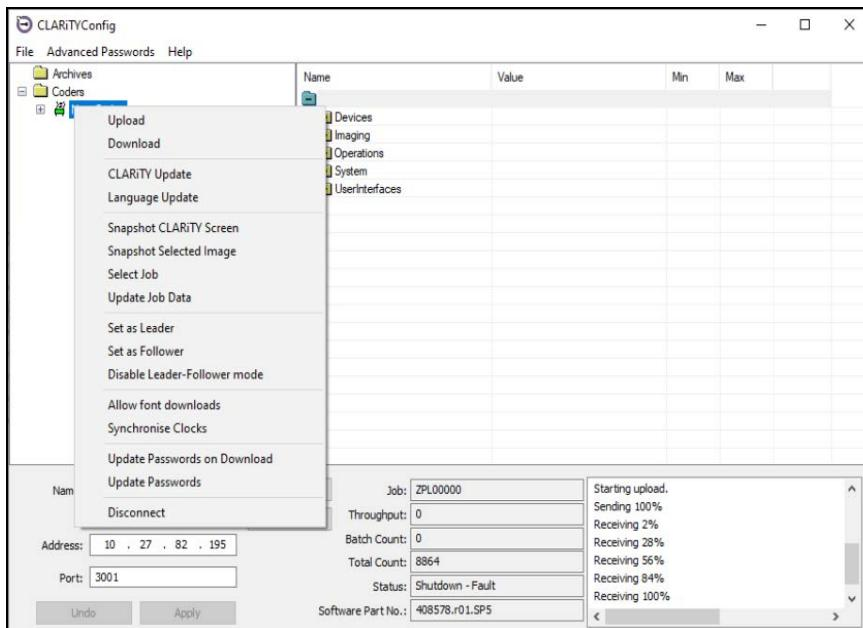

Figure 8-2: CLARiTY Config - Follower Setup
- 2 Right click on the 'New Printer' icon when the icon turns 'green' and Select 'Set as Follower', from the list as shown in Figure 8-2.